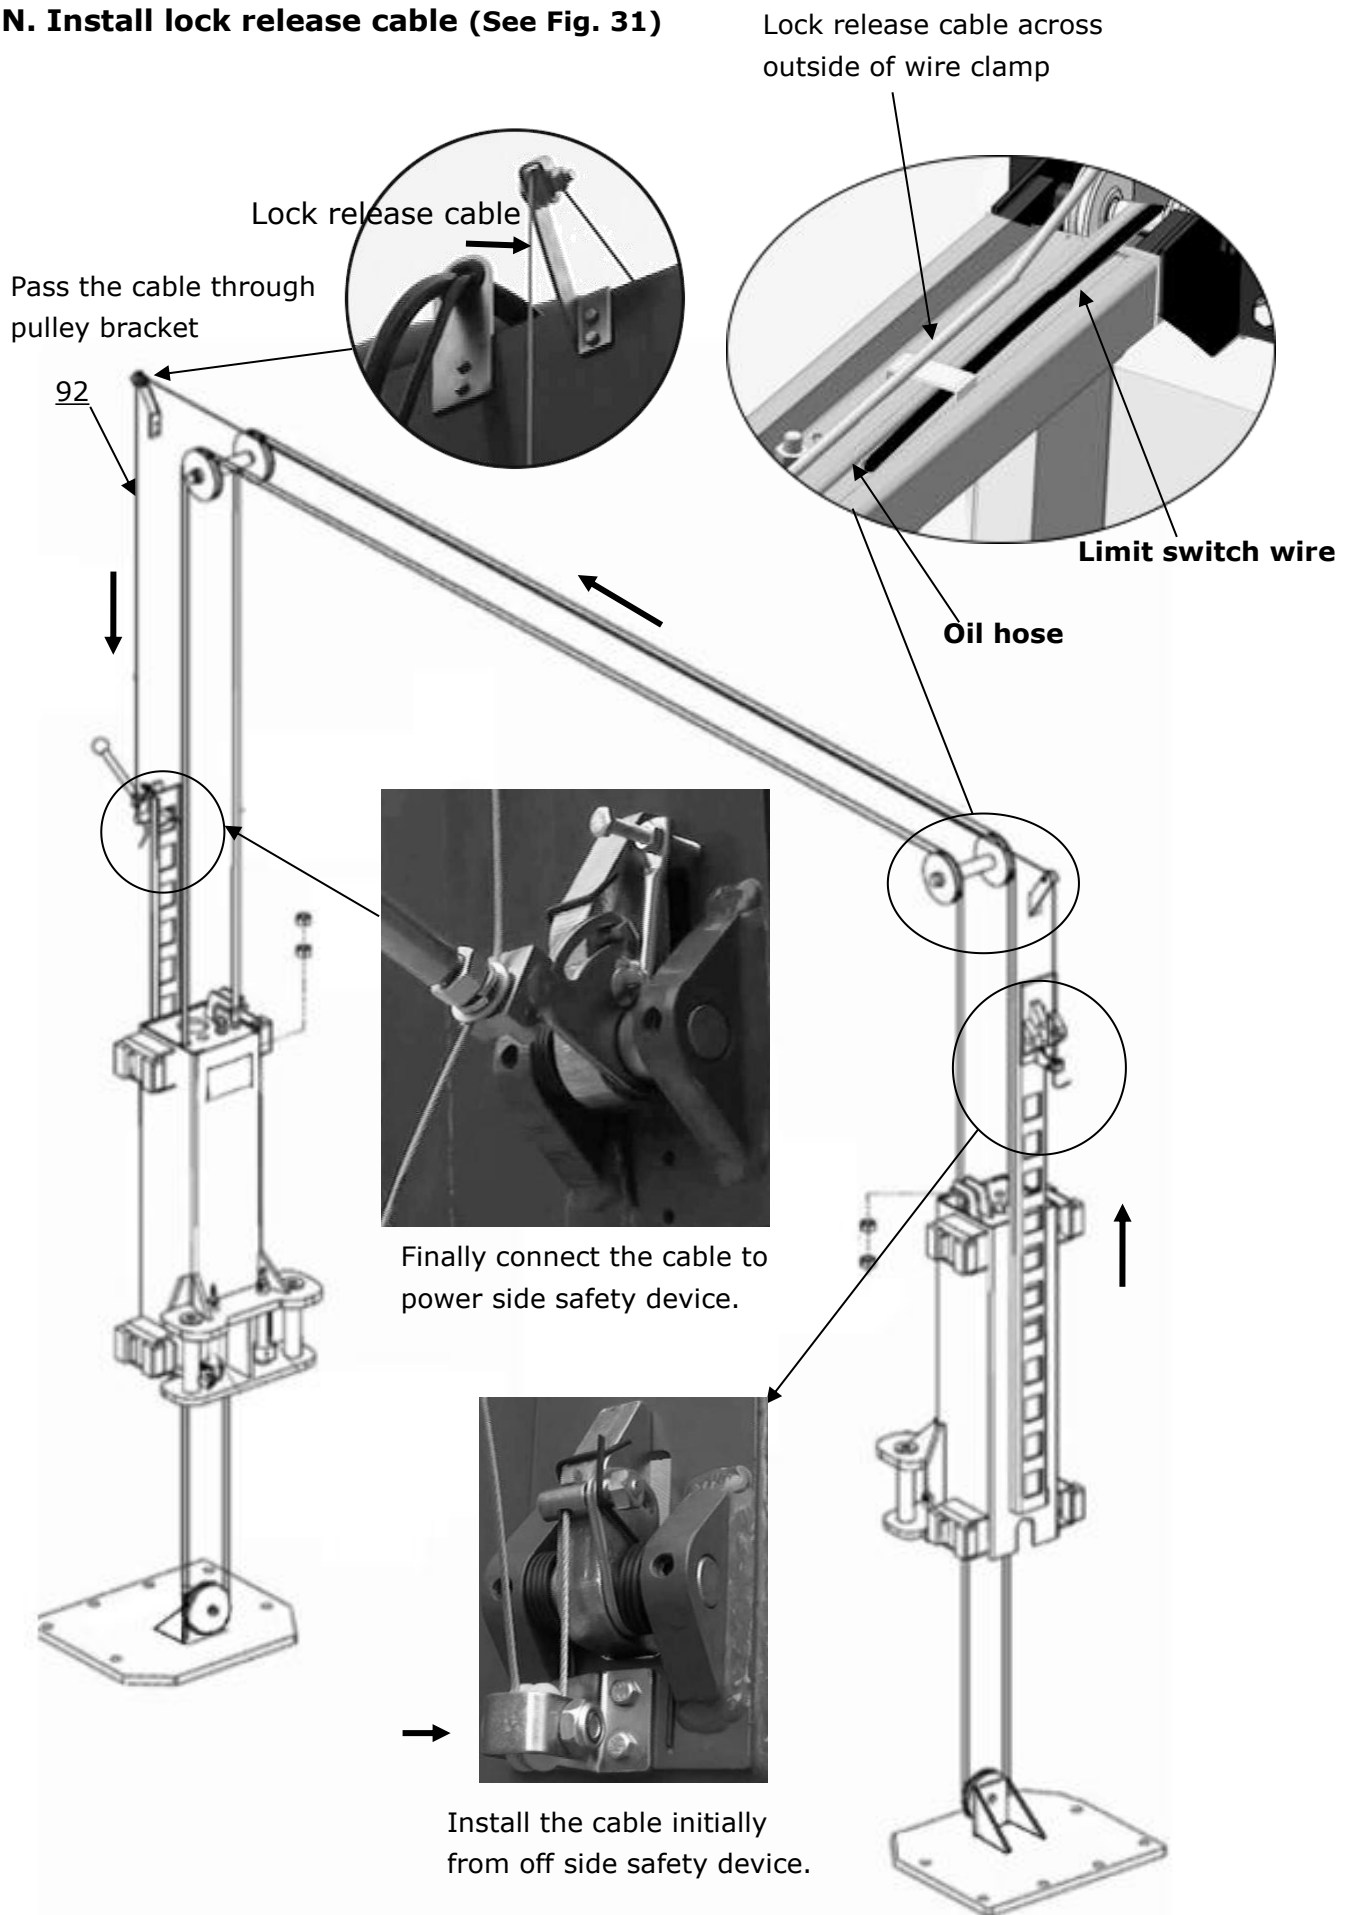

Fig.31
N. Install lock release cable (See Fig. 31)